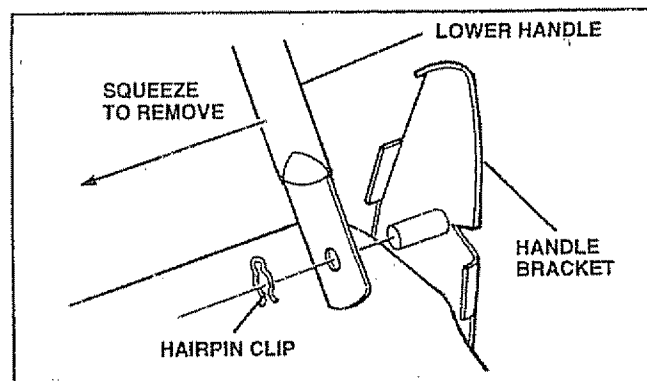

FIG. 17
- Disconnect the lower handle from the handle brackets (See Fig. 17).